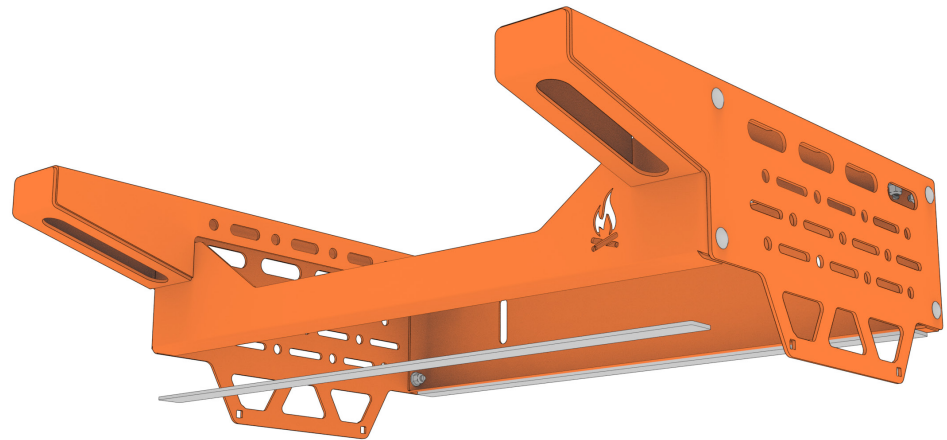

FIG 8
2.4 Attach Foam Gaskets: The **Rear Storage Bike Mount Adapter Panels** may or may not have foam gaskets pre-installed. Attach the included **Foam Gaskets** to the bottom of the **Front and Rear Panels** to avoid rubbing (FIG 8).